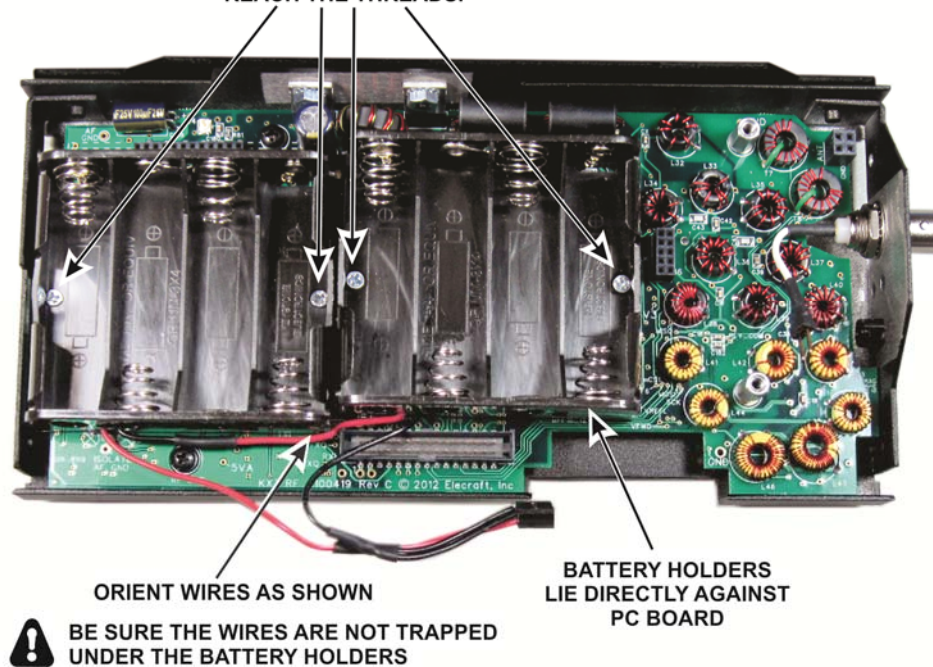

Figure 40. Installing the Battery Holders.
- ☐ Install the two battery holders as shown in Figure 40. Orient the holders and route the wires as shown. Press down on the holder while starting each screw so it does not damage the first threads in the standoff beneath the RF board. Variations in manufacturing tolerances may require using the longer screws indicated. The longer screws are supplied in the Spares bag of parts.